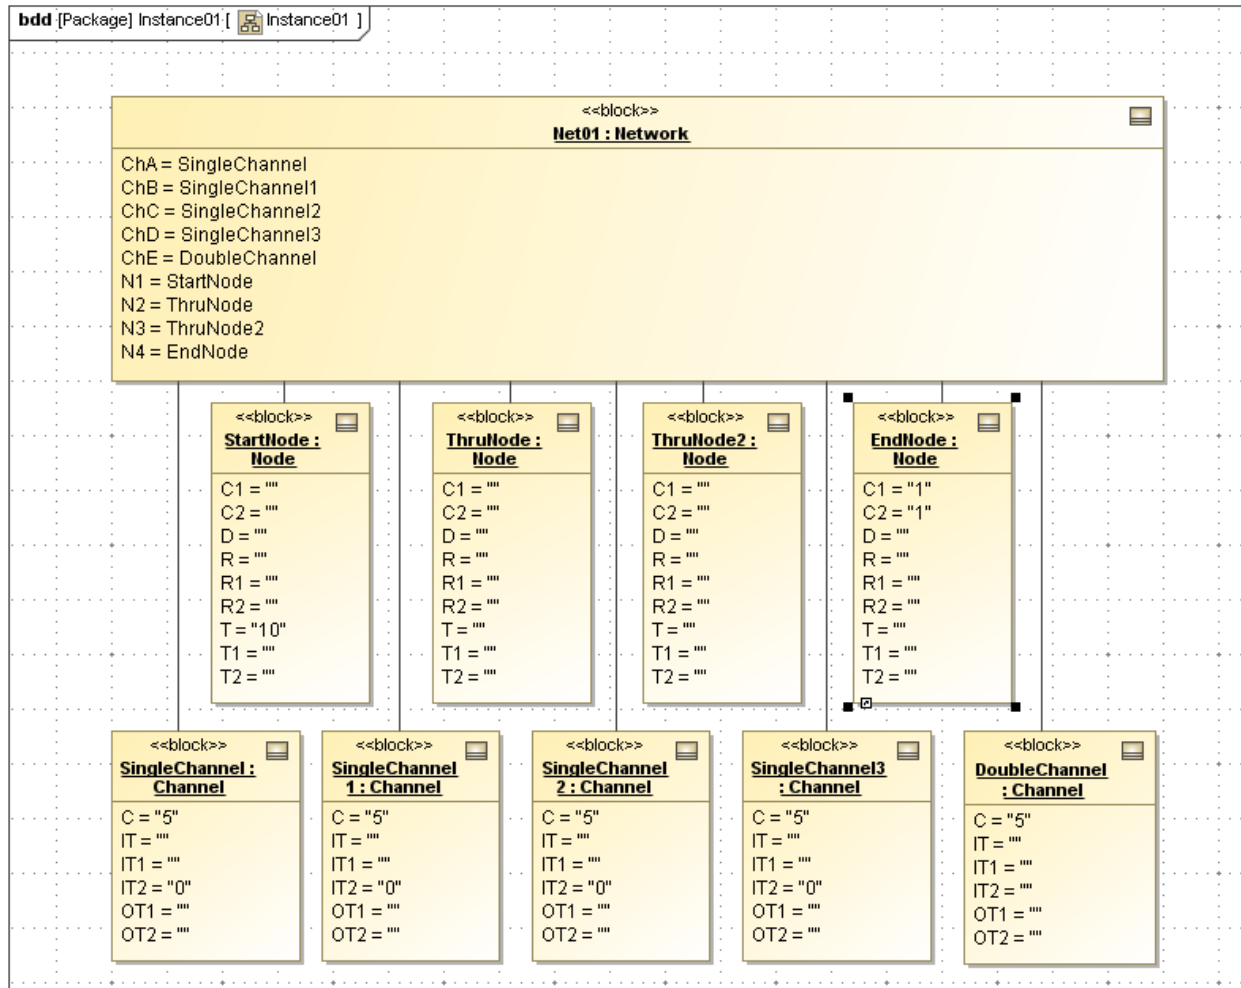

Figure 5.14 Instance01 diagram complete
- viii. Draw connectors from Net01 to the remaining instances. In each case, assign an appropriate instance to each part property, as shown in Figure 5.14.
- x. Create a CXI heading in package Instance01 by selecting ParaMagic→Util→Create CXI_heading. The final contents of Instance01 diagram should appear as in Figure 5.14.